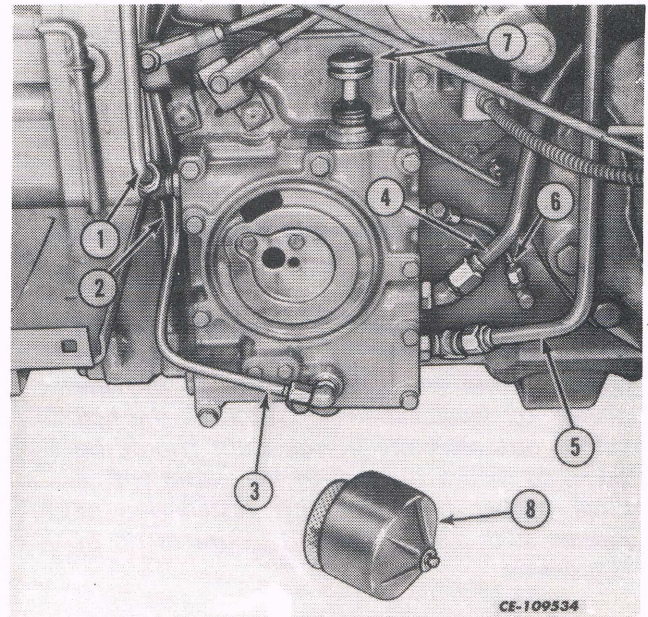

Fig. 1
3. Remove the hydraulic oil filter with cover assembly (8, Fig. 1).
4. Disconnect the following lines at the MCV (See Fig. 1):
- a. Oil cooler. (1)
- b. Line from power steering. (2)
- c. Line to power steering. (3)
- d. Return line from hitch and auxiliary valves. (4)
- e. Line to hitch and auxiliary valves. (5)
- f. IPTO line (if equipped). (6)